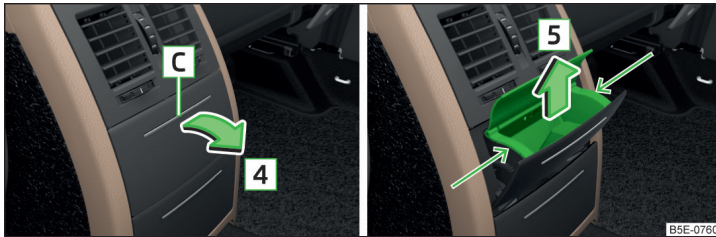

Fig. 84 High centre console: Open rear ashtray / Removing rear ashtray insert
- Press in the ashtray in area **C** **»** Fig. 84.
- Press the cover carefully to the stop in the direction of arrow **4** **»** Fig. 84.